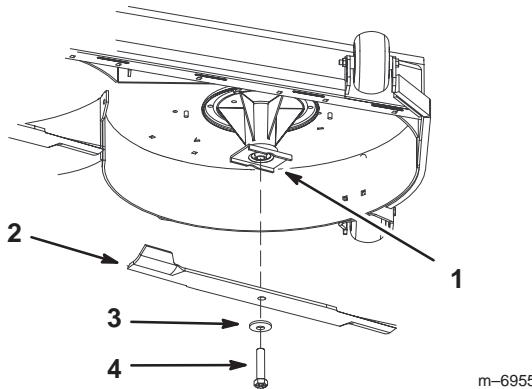

Figure 1
1. Remove the existing blades from the spindles (Fig. 1).